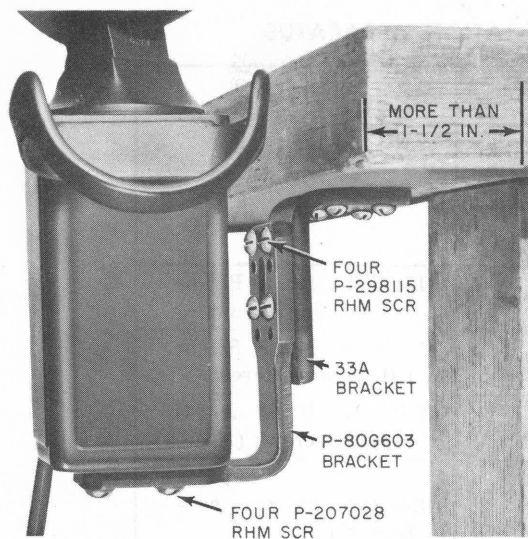

Fig. 3—Installed With 33A Auxiliary Bracket
3.05 When installing hang-up type set on desks or tables, handset should normally line up with front of desk or table. This will reduce the chance of accidentally knocking handset off the cradle. A 33A auxiliary bracket is used when a G-type mounting is attached to a desk or table (Fig. 3).